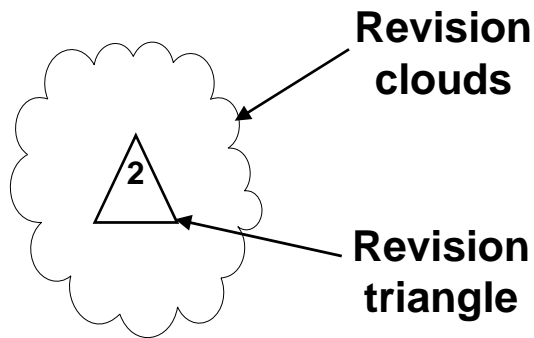

Fig. 1
- Revision clouds and triangles shall be used to identify all changes from previous formal drawing revision; primary purpose is to improve efficiency of drawing QA/reviews by focusing on changes from previous drawing (see Fig 1).